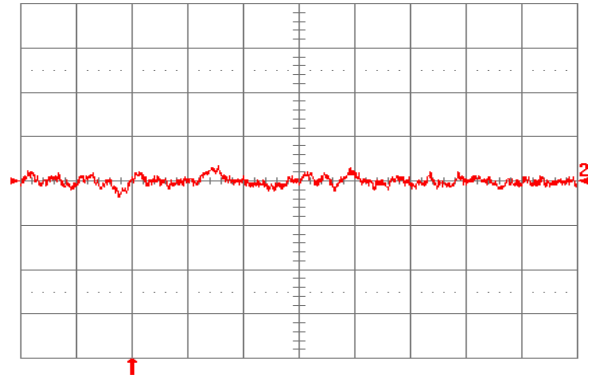

**Fig. 2.5V.14:** Test Setup for measuring input reflected ripple currents,  $i_c$  and  $i_s$ .
**Fig. 2.5V.1:** Available load current vs. ambient air temperature and airflow rates for SQ48T15025 converter with D height pins mounted vertically with  $V_{in} = 48\text{ V}$ , air flowing from pin 3 to pin 1, and maximum FET temperature  $\leq 120^\circ\text{C}$ .
**Fig. 2.5V.2:** Available load current vs. ambient air temperature and airflow rates for SQ48T15025 converter with D height pins mounted horizontally with  $V_{in} = 48\text{ V}$ , air flowing from pin 3 to pin 1, and maximum FET temperature  $\leq 120^\circ\text{C}$ .
**Fig. 2.5V.3:** Available load current vs. ambient air temperature and airflow rates for SQ48S15025 converter mounted vertically with  $V_{in} = 48$  V, air flowing from pin 3 to pin 1, and maximum FET temperature  $\leq 120$  °C.
**Fig. 2.5V.4:** Available load current vs. ambient air temperature and airflow rates for SQ48S15025 converter mounted horizontally with  $V_{in} = 48$  V, air flowing from pin 3 to pin 1, and maximum FET temperature  $\leq 120$  °C.
**Fig. 2.5V.5:** Efficiency vs. load current and input voltage for SQ48T/S15025 converter mounted vertically with air flowing from pin 3 to pin 1 at a rate of 300 LFM (1.5 m/s) and  $T_a = 25$  °C.
**Fig. 2.5V.6:** Efficiency vs. load current and ambient temperature for SQ48T/S15025 converter mounted vertically with  $V_{in} = 48$  V and air flowing from pin 3 to pin 1 at a rate of 200 LFM (1.0 m/s).
**Fig. 2.5V.7:** Power dissipation vs. load current and input voltage for SQ48T/S15025 converter mounted vertically with air flowing from pin 3 to pin 1 at a rate of 300 LFM (1.5 m/s) and  $T_a = 25^\circ\text{C}$ .
**Fig. 2.5V.8:** Power dissipation vs. load current and ambient temperature for SQ48T/S15025 converter mounted vertically with  $V_{in} = 48\text{ V}$  and air flowing from pin 3 to pin 1 at a rate of 200 LFM (1.0 m/s).
**Fig. 2.5V.9:** Turn-on transient at full rated load current (resistive) with no output capacitor at  $V_{in} = 48\text{ V}$ , triggered via ON/OFF pin. Top trace: ON/OFF signal (5 V/div.). Bottom trace: output voltage (1 V/div.). Time scale: 2 ms/div.
**Fig. 2.5V.10:** Turn-on transient at full rated load current (resistive) plus 10,000  $\mu\text{F}$  at  $V_{in} = 48\text{ V}$ , triggered via ON/OFF pin. Top trace: ON/OFF signal (5 V/div.). Bottom trace: output voltage (1 V/div.). Time scale: 2 ms/div.
**Fig. 2.5V.11:** Output voltage response to load current step-change (3.75 A – 7.5 A – 3.75 A) at  $V_{in} = 48$  V. Top trace: output voltage (100 mV/div.). Bottom trace: load current (5 A/div.). Current slew rate: 0.1 A/ $\mu$ s.  $C_o = 1$   $\mu$ F ceramic. Time scale: 0.2 ms/div.
**Fig. 2.5V.12:** Output voltage response to load current step-change (3.75 A – 7.5 A – 3.75 A) at  $V_{in} = 48$  V. Top trace: output voltage (100 mV/div.). Bottom trace: load current (5 A/div.). Current slew rate: 5 A/ $\mu$ s.  $C_o = 450$   $\mu$ F tantalum + 1  $\mu$ F ceramic. Time scale: 0.2 ms/div.
**Fig. 2.5V.13:** Output voltage ripple (20 mV/div.) at full rated load current into a resistive load with  $C_o = 10$   $\mu$ F tantalum + 1  $\mu$ F ceramic and  $V_{in} = 48$  V. Time scale: 1  $\mu$ s/div.
**Fig. 2.5V.15:** Input reflected ripple current,  $i_c$  (100 mA/div.), measured at input terminals at full rated load current and  $V_{in} = 48$  V. Refer to Fig. 2.5V.14 for test setup. Time scale: 1  $\mu$ s/div.
**Fig. 2.5V.16:** Input reflected ripple current,  $i_s$  (10 mA/div.), measured through 10  $\mu$ H at the source at full rated load current and  $V_{in} = 48$  V. Refer to Fig. 2.5V.14 for test setup. Time scale: 1  $\mu$ s/div.
**Fig. 2.5V.17:** Output voltage vs. load current showing current limit point and converter shutdown point. Input voltage has almost no effect on current limit characteristic.
**Fig. 2.5V.18:** Load current (top trace, 20 A/div., 20 ms/div.) into a 10 m $\Omega$  short circuit during restart, at  $V_{in} = 48$  V. Bottom trace (20 A/div., 1 ms/div.) is an expansion of the on-time portion of the top trace.